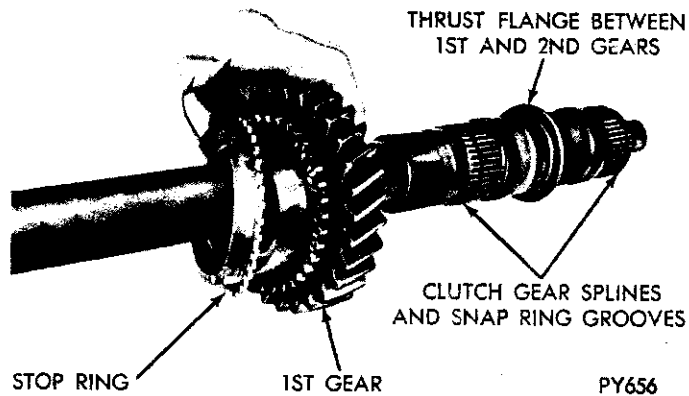

Fig. 23—1st Gear and Stop Ring—Removal or Installation
- (10) Remove 1st gear and its stop ring from mainshaft (Fig. 23).
(14) Slide 1st gear and stop ring over rear end of mainshaft and against flange which separates 1st and 2nd gears (Fig. 23).